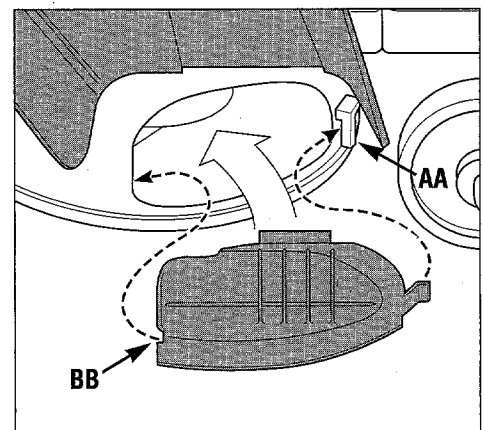

Figure 3-7
To use the mulching feature, insert the mulcher cover (Figure 3-7) securely in the right side of the deck beneath the discharge chute.
Insert the front tab of the cover into the mower front support bracket (AA, Figure 3-7) and then close the cover, making sure that the slot (BB) in the cover is completely engaged in the rear edge of the deck opening.